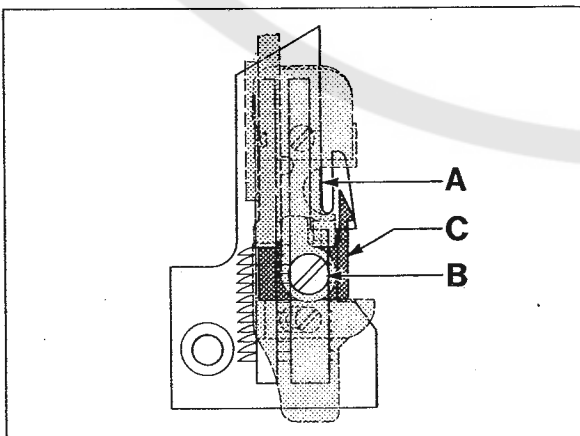
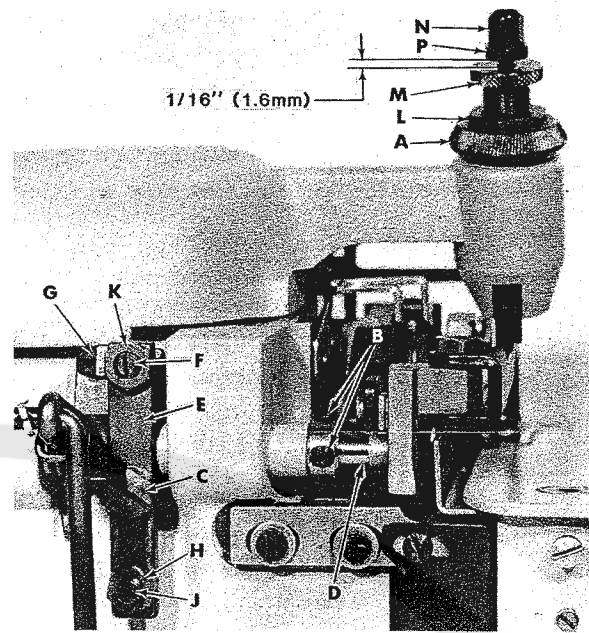

Fig. 16
Fig. 17
Right edge of presser foot must align with left edge of needle slot in throat plate as shown Ref. Point A, Fig. 16.
Presser foot must lie flat on throat plate. The adjustable stitch tongue on presser foot must center over stitch tongue of throat plate as shown in Fig. 16.
With presser foot locked in sewing position by release bushing (A, Fig. 17), loosen collar screws (B) and clamp screw (C), then adjust lifter lever shaft (D) left to right until the right edge of presser foot aligns with the left edge of needle slot in throat plate as shown Ref. point A, Fig. 16. Tighten collar screws (B, Fig. 17) and while holding lifter lever arm (E) so its stop screw (F) is against intermediate lever (G), tighten clamp screw (C).
Completely unlock release bushing (A, Fig. 17). Plunger should clear presser arm without binding.
Loosen screw (B, Fig. 16) and adjust stitch tongue (C) left to right, to center over stitch tongue of throat plate as shown in Fig. 16, then tighten screw (B).
Loosen locknut (H, Fig. 17) and adjust stop screw (J) so presser foot will not interfere with upper looper, then tighten locknut (H).
Rotate handwheel in operating direction until both main and differential feeds are positioned below throat plate. Loosen locknut (L, Fig. 17) and turn adjusting screw (M) clockwise for more pressure or counterclockwise for less pressure, then tighten locknut (L).
Lock presser foot in position with pressure release bushing (A); loosen capnut (N) and adjust nut (P) up or down so its under surface is 1/16 inch (1.6mm) above screw (M) as shown in Fig. 17. Hold nut (P) in position and tighten capnut (N).